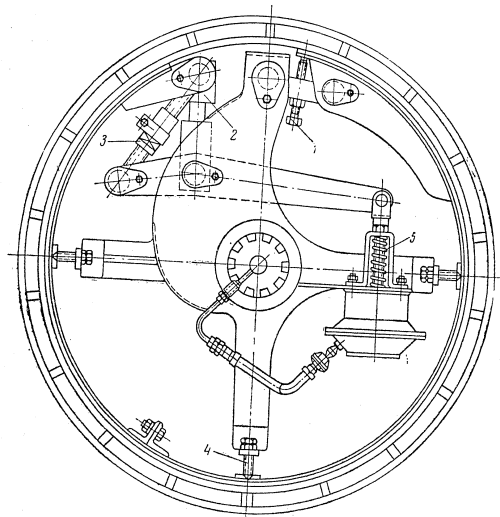

Fig. 20. Main Winch Friction Clutch:
1. At engaged position of the band adjust screw 1 so that the screw end is at a distance of 1.5 to 2 mm from the band and fasten the screw by a check nut (see Fig. 20).